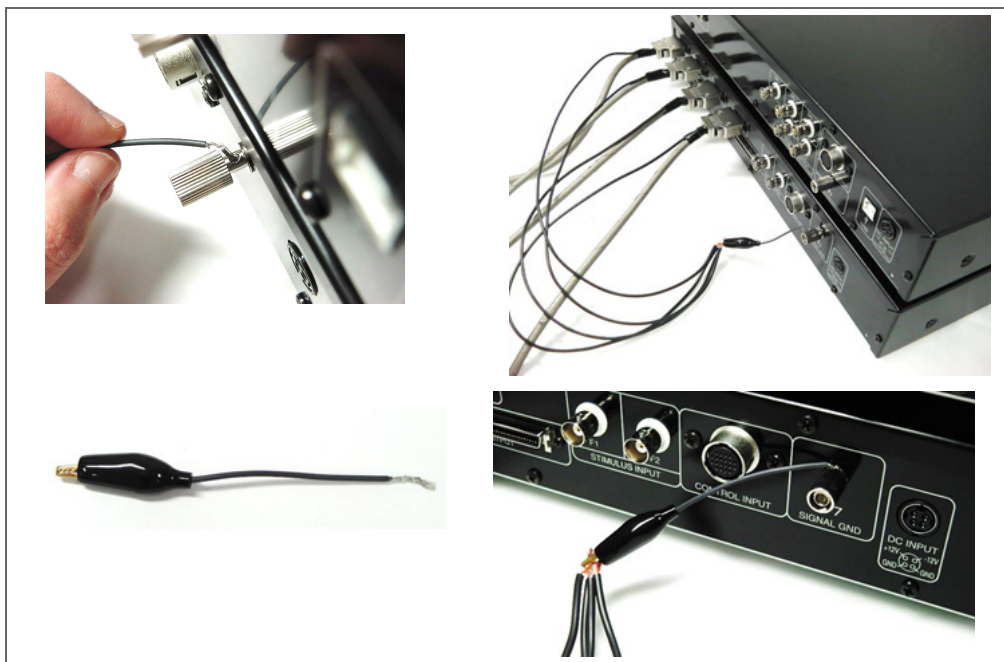

Figure 9. Grounding the Connector cables to the GND terminal in the MED64 Head Amplifier.
- Let the ground wires for all Connectors go THROUGH the hole at the GND (Figure 9, top-left) to secure the grounding. If this cannot be made, use the short grounding wire (Figure 9, bottom left) to ground the all cables (Figure 9, right).